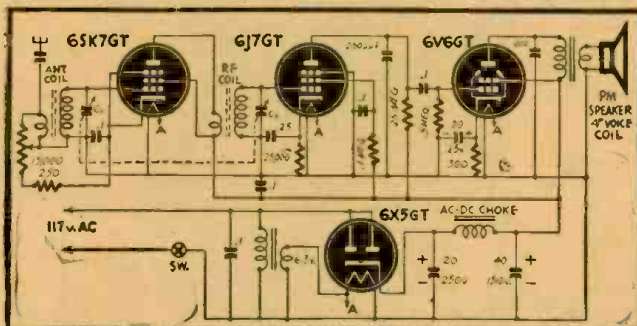

Fig. 1—A simple receiver using one 6-volt filament transformer.
**A.** The diagram shows a circuit of a receiver using 6-volt tubes. All parts have been specified. (See Fig. 1)